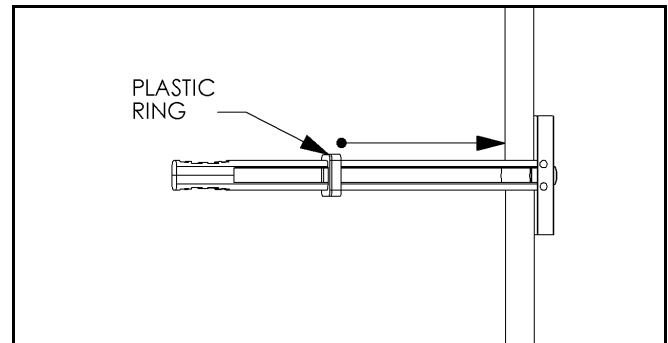

Figure 11:
5. Slide plastic ring of anchor to the surface of the wall (see Figure 11).